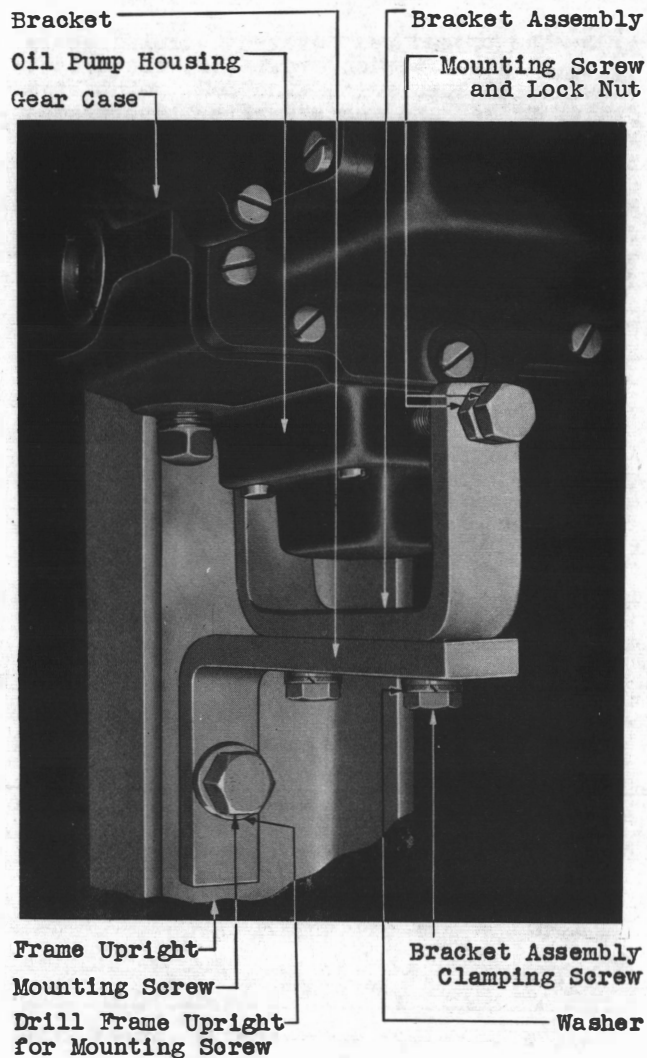

Fig. 2 - D-159463 Gear Case Stop
3.06 Locating Gear Case Stop on Frame Upright: Separate the gear case stop mounting screw and lock nut with the fingers and remove the screw from the stop. Remove the bracket assembly clamping screws and washers with the No. 245 wrench and separate the bracket and bracket assembly. Mount the bracket assembly on the oil pump housing of the gear case so that the pin in the assembly is resting against the rear side of the housing and then tighten the mounting screw finger tight taking care not to disturb the position of the gear case. Tighten the lock nut finger tight. Hold the wide surface of the long leg of the bracket against the bottom surface of the bracket assembly and insert and tighten the mounting screws finger tight. Back off the mounting screws 1/4 turn and slide the bracket against the frame upright as shown in Fig. 2. Tighten the